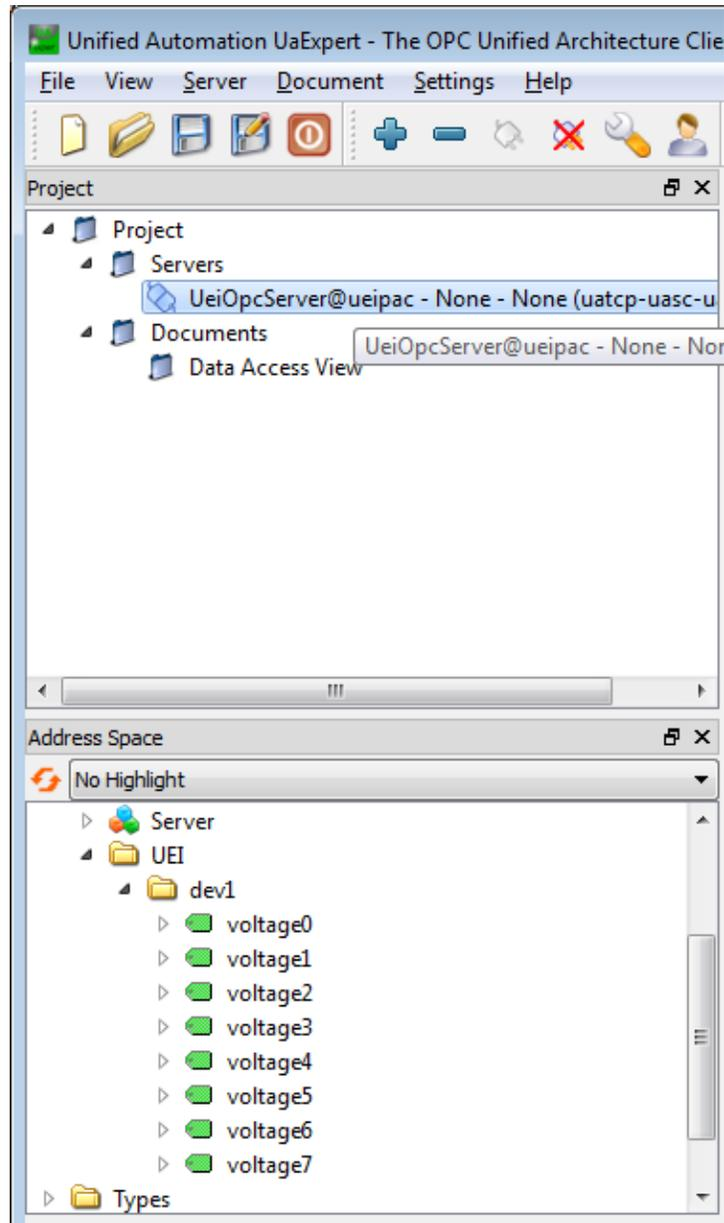

Figure 13 Channels Display in Client Address Space
- Verify that the UEIOPC-UA channels are visible in the “Address Space” under the UEI folder (refer to Figure 13).